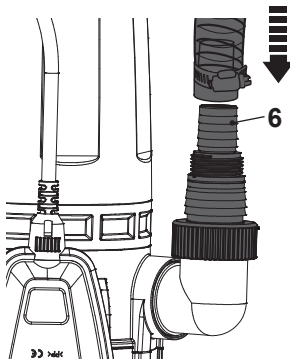

Fig. 3
3. Attach a suitable hose / pipe to the hose connector (6) and secure it with suitable fixing device, e.g. hose clip (Fig. 3).